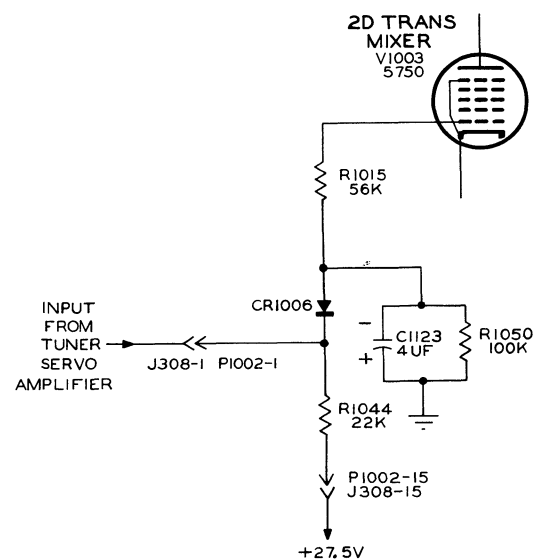

Figure 4-42. Tuner Muting Circuit, Simplified Schematic Diagram
Relay K1001, located in the tuner unit, performs several functions, as shown in figure 4-42. One set of contacts grounds the receiver input circuit during the transmit position. A second set of contacts connects the cathode of second r-f amplifier V1009 directly to ground for increased gain and opens the cathode circuit of first receiver mixer V1005 and first r-f amplifier V1008. A third set of contacts opens the cathode circuits of second receiver mixer V1006. The fourth set of contacts removes avc voltage from the grid of V1009 and transfers the grid to ground.
4.9.11.4 TUNER MUTING CIRCUIT. Refer to figure 4-42. Under certain conditions, the r-f tuner unit could supply drive to the power amplifier and operate the Antenna Tuner during channeling operations if precautions were not taken to prevent this. This would allow the Antenna Tuner to tune upon a random frequency and then break the automatic keying circuit of the Transceiver resulting in improper tuning. To prevent this from occurring, the second transmitter mixer, V1003, is biased to cutoff when the tuner servo amplifier is in operation.